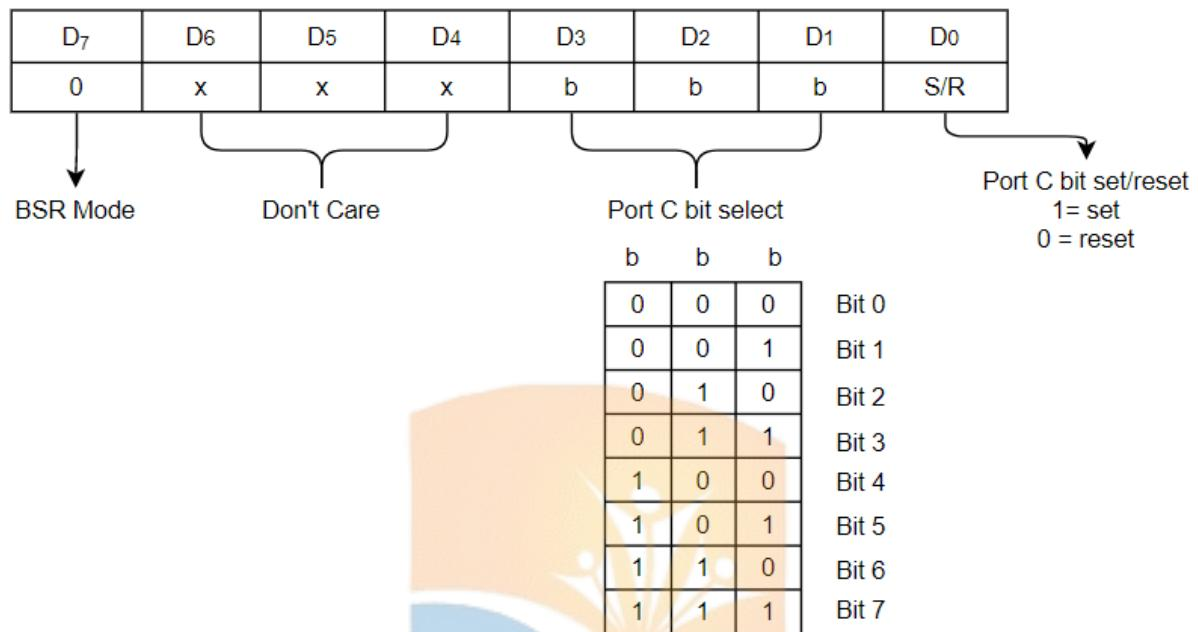

Fig. 19.2 Control word format of BSR mode
- The control word format of BSR mode is as shown in the figure 19.2.